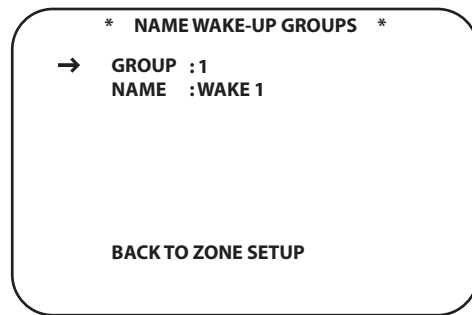

Figure 63.
1. From ZONE SETUP PAGE 1, with the cursor next to NAME WAKE-UP GROUPS, press the **Set Button 18**. The NAME WAKE-UP GROUPS screen will appear (Figure 63).